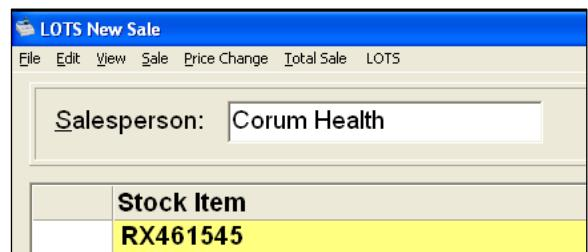

Figure 39
- Enter in 'RX' followed by the script number into the stock item field (see Figure 39).